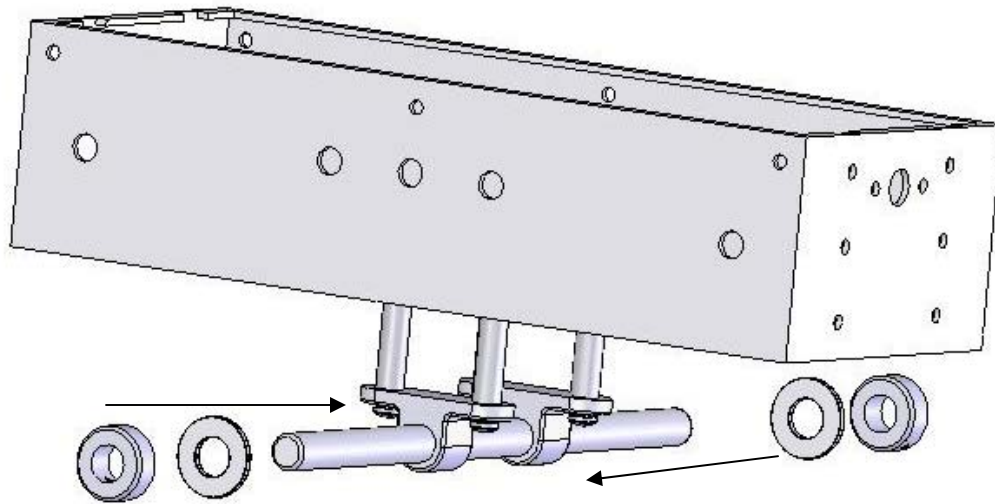

Fig. 13
Step Two: Center the pillow blocks and main shaft. Slide (2) 1/2" shaft collars and washers up against the pillow blocks to secure the main shaft in position as shown in figure 13 below.